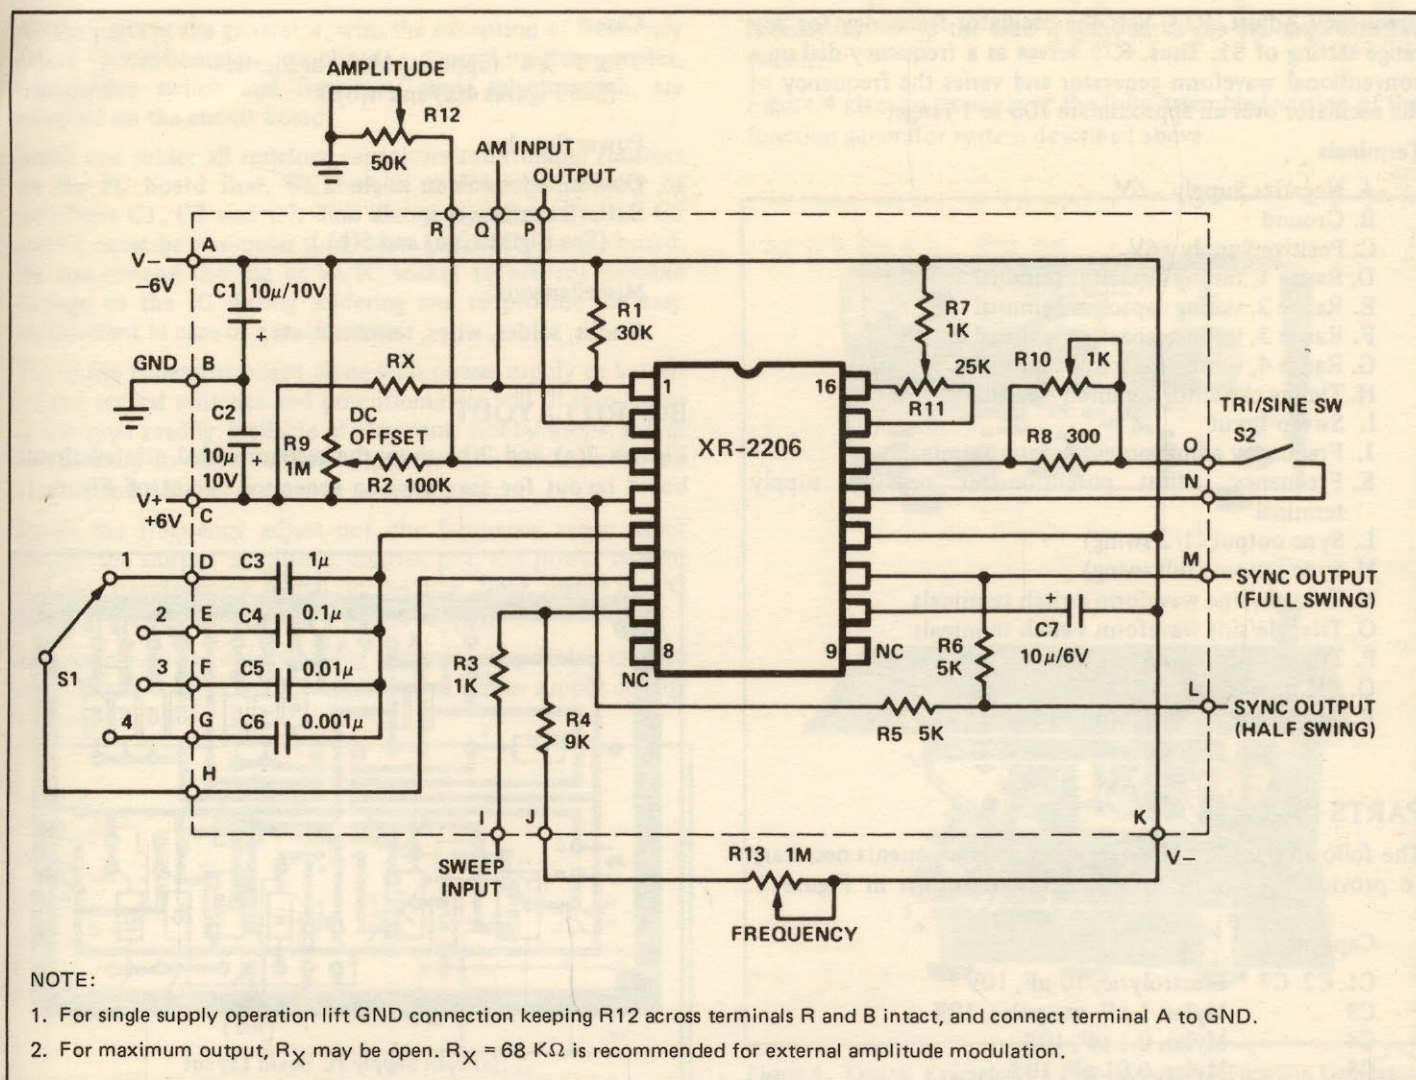

Figure 1. Circuit Connection Diagram for Function Generator. (See Note 1 for single supply operation.)
- (b) **Frequency Setting:** At any range setting, frequency can be varied over a 100:1 tuning range with a potentiometer (see R₁₃ of Figure 1).
The above expression is accurate to within $\pm 5\%$ at any range setting. The timing resistor R is the series combination of resistors R₄ and R₁₃ of Figure 1. The timing capacitor C is any one of the capacitors C₃ through C₆, shown in the figure.
- (d) **Sine and Triangle Output:** The sine and triangle output amplitudes are variable from 0V to 6 V_{pp}. The amplitude is set by an external potentiometer, R₁₂ of Figure 1. At any given amplitude setting, the triangle output amplitude is approximately twice as high as the sinewave output. The internal impedance of the output is 600 Ω .
- (f) **Sync Output:** The sync output provides a 50% duty cycle pulse output with either full swing or upper half swing of the supply voltage depending on the choice of sync output terminals on the printed circuit board (see Figure 1).
- (g) **Frequency Modulation (External Sweep):** Frequency can be modulated or swept by applying an external control voltage to sweep terminal (Terminal I of Figure 1). When not used, this terminal should be left open-circuited. The open circuit voltage at this terminal is approximately 3V above the negative supply voltage and its impedance is approximately 1000 ohms.
(h) **Amplitude Modulation (AM):** The output amplitude varies linearly with modulation voltage applied to AM input (terminal Q of Figure 1). The output amplitude reaches its minimum as the AM control voltage approaches the half of the total power supply voltage. The phase of the output signal reverses as the amplitude goes through its minimum value. The total dynamic range is approximately 55 dB, with AM control voltage range of 4V referenced to the half of the total supply voltage. When not used, AM terminal should be left open circuited.